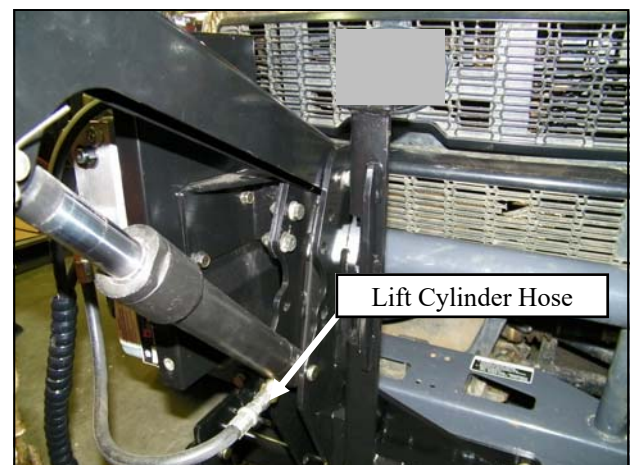

Fig. 9.5 Lift Cylinder Hose orientation
- 9.5 Attach and tighten the swivel end of the 12" long hydraulic hose to the elbow on the fixed end of the lift cylinder that was installed previously. See Fig 9.5.